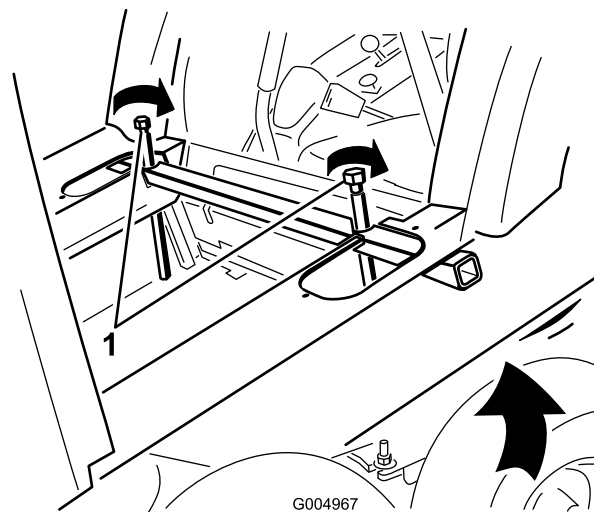

Figure 83
27. Raise the rear of the cab high enough to clear the back of the seat by slowly and evenly tightening the jacking bolts (Figure 83) on each side of the cab jack tube a little at a time. Alternate frequently from side to side so that the bolts support the cab evenly and stay in position in the holes in the floor plate.